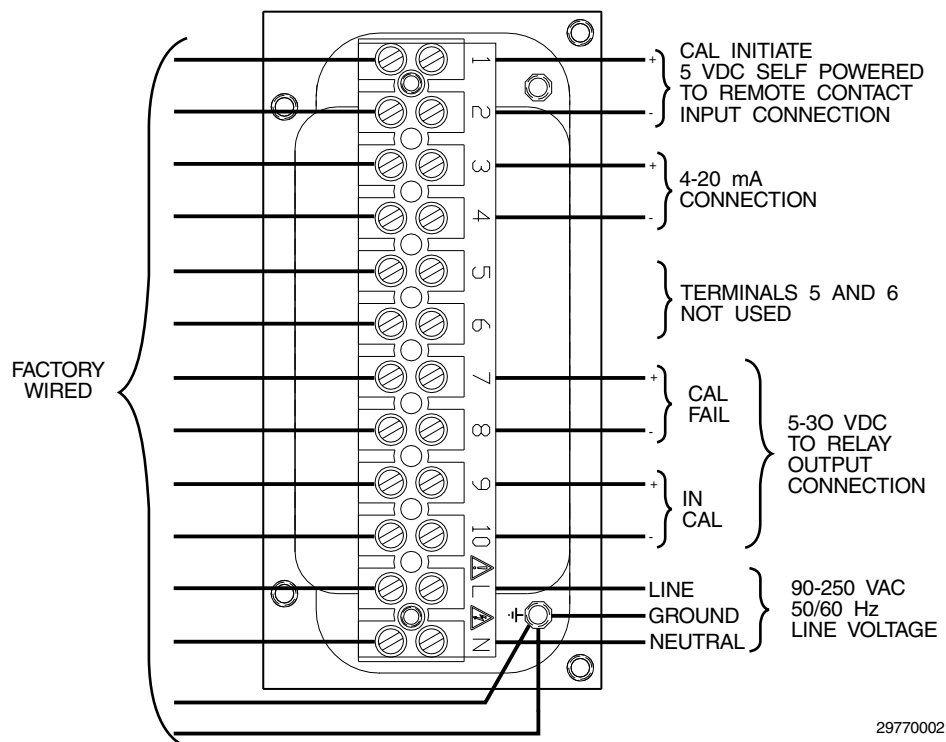

Figure 2. Oxymitter 4000 with SPS 4000 Wiring Diagram
4. If using an SPS 4000, make the following wire connections as shown in Figure 2: line voltage, cal initiate-remote contact input, relay output, and 4-20 mA.